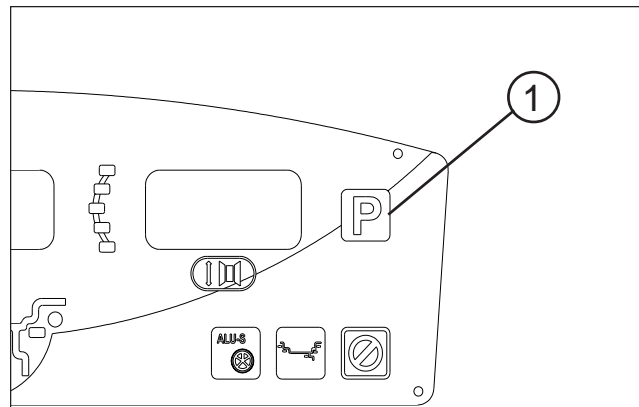

Figure 15
1. Activate Calibration Verification. Press and hold the **P** button while rotating the shaft until the display reads "P" "14". See Figure 15 item "1".